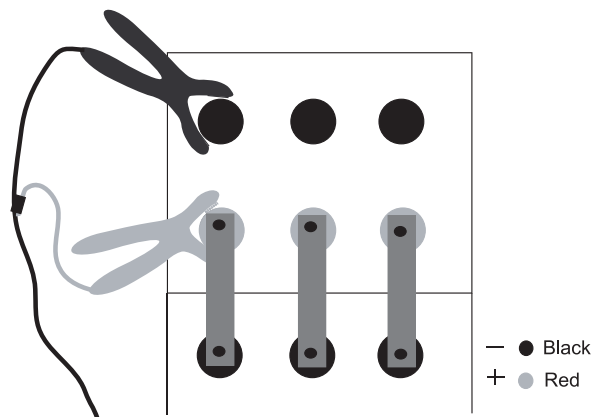

Figure 5: Attaching the cable to jar posts
1. Attach the black clamp or probe tip to the black (–) terminal. Refer to *Figure 5*.